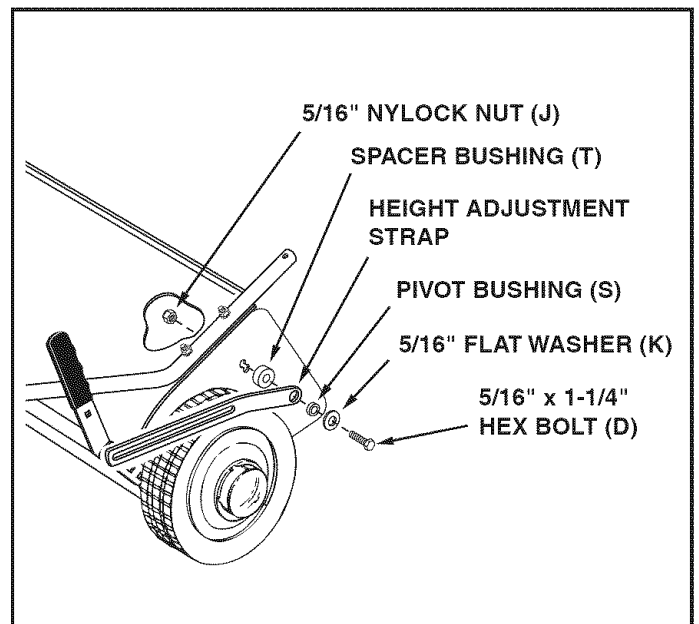

FIGURE 10
STEP 9: (SEE FIGURE 10)
- Assemble onto a 5/16" x 1-1/4" hex bolt (D) in the order listed, a 5/16" flat washer (K), the pivot bushing (S), the height adjustment strap and the spacer bushing (T). Insert the bolt through the upper part of the double hole in the end of the sweeper housing and secure it with a 5/16" nylock nut (J). **Tighten.**